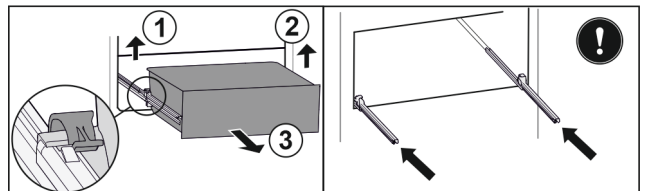

Fig. 78
- Lift left clamp and simultaneously pull drawer forwards on the left. Fig. 78 (1)
- Lift right clamp and simultaneously pull drawer forwards on the right. Fig. 78 (2)
- Remove drawer to the front. Fig. 78 (3)